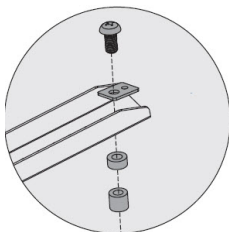

Figure 3
3. (Optional) Place a **Round Washer** and the necessary number of **Short** and/or **Long Spacers** over each **VESA Mounting Hole**. Use the **Spacer Combination Table** to determine the number of **Spacers** for the application. (Figure 3)